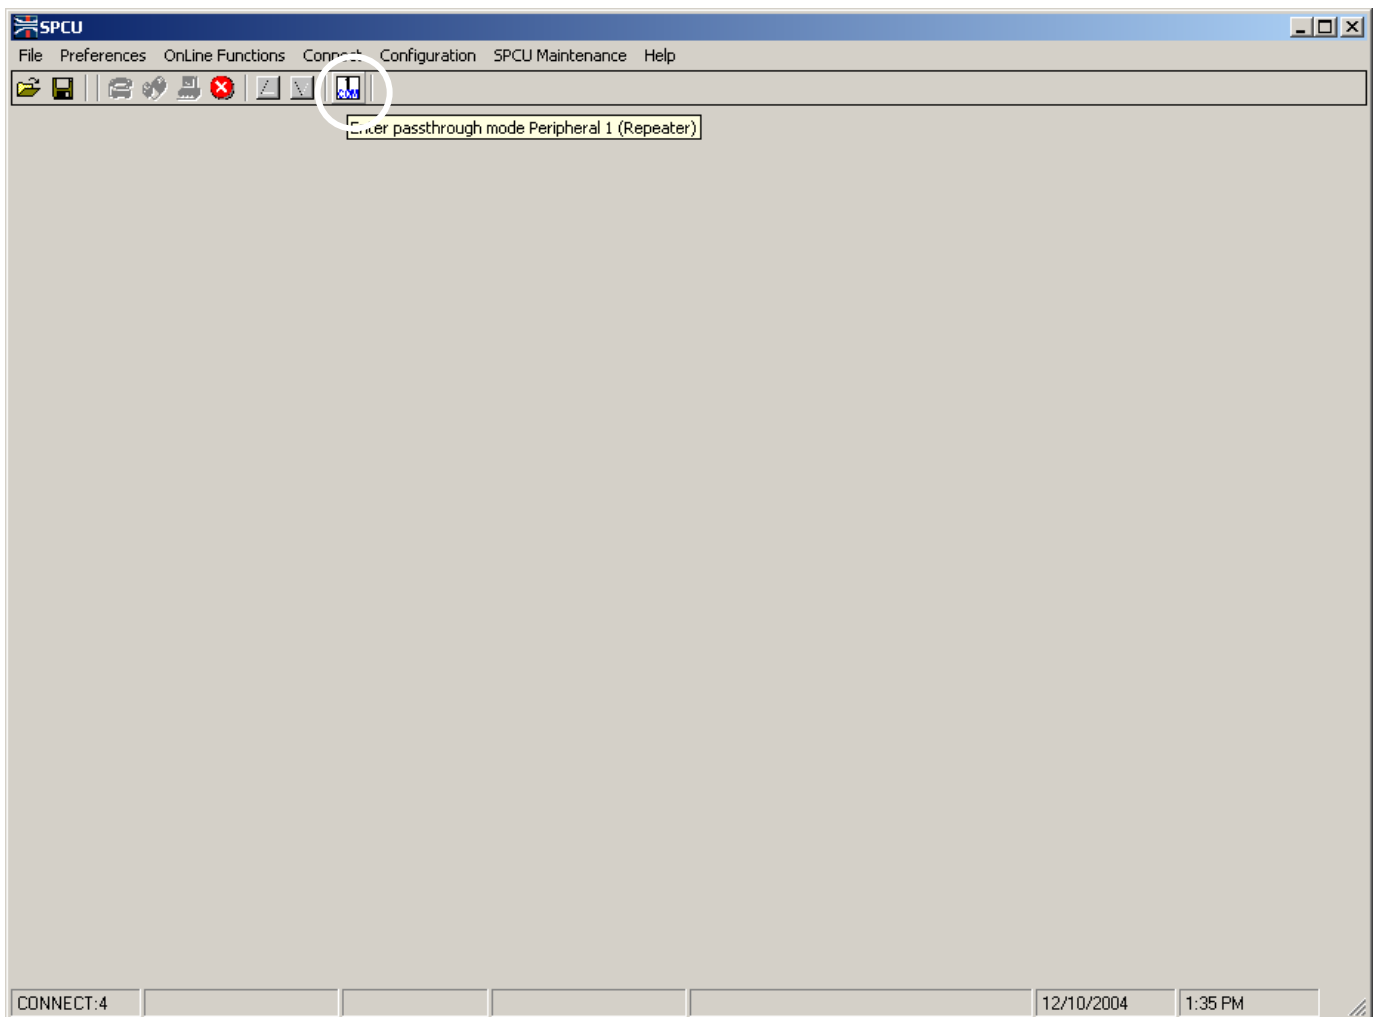

Figure 5 – SPCU interface with “pass-through” button
23. Once the connection is established click the “Pass-through Port” button on the SPCU Main Menu (Figure 5).